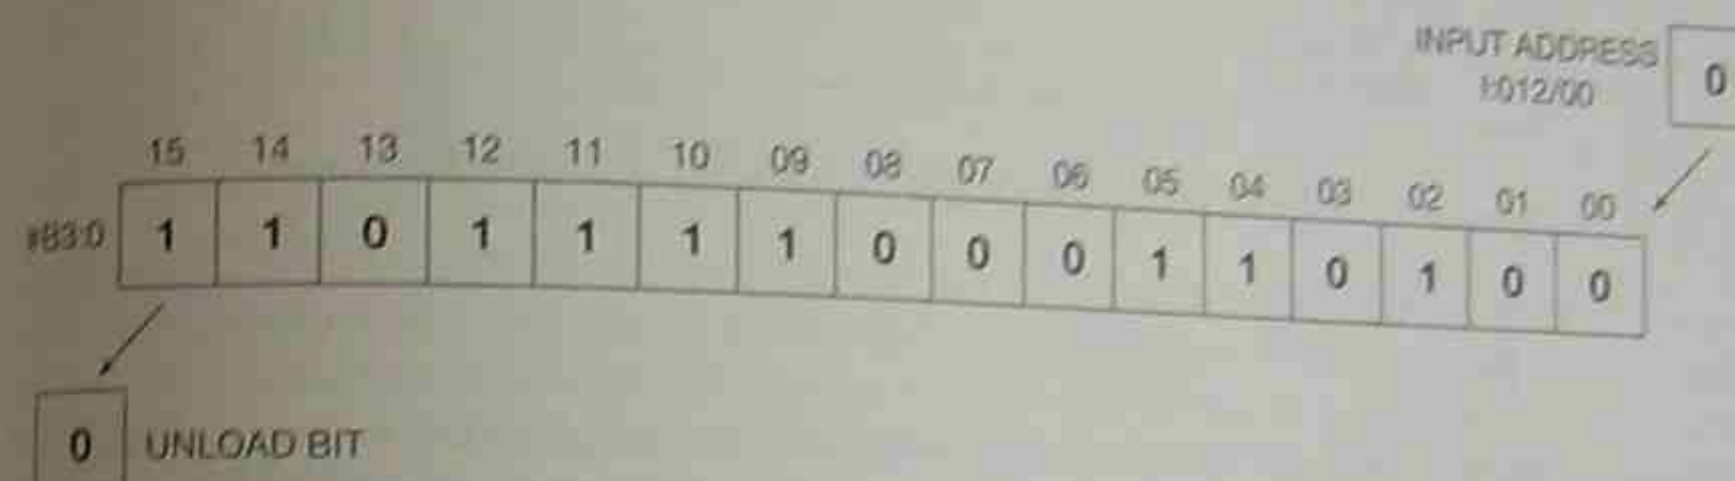
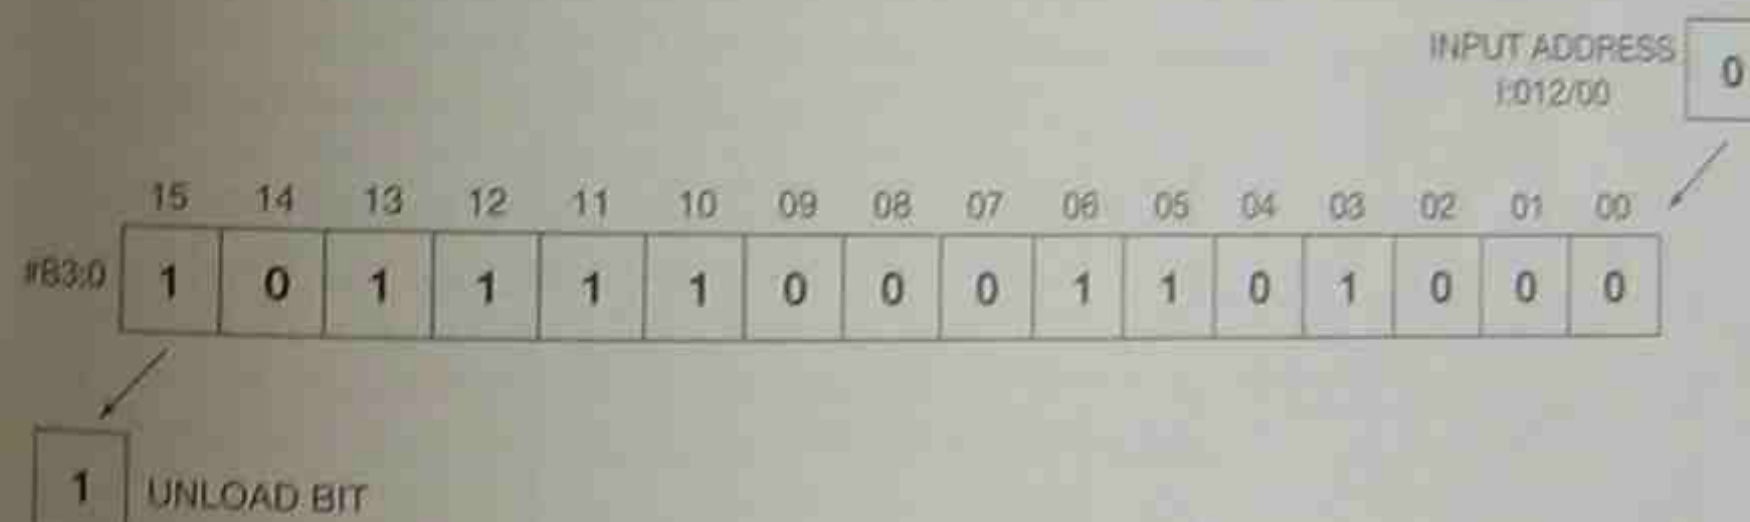

Figure 16-8a Bit-Shift Array Prior to BSL Execution
Figure 16-8b Bit-Shift Array after BSL Execution
Figure 16-8a shows a one-word (B3:0), 16-bit array, with the input bit address of I:012/00. The status of bit 00 of input word 012 will be inserted into the first bit of the array which is bit 00. When the bit array is shifted left, the information in bit 15 (position 16 of the array) will be shifted out and into the unload bit (UL) of the control element. Figure 16-8b shows the 16-bit array after the BSL instruction has made a false-to-true transition and the information has been shifted left.